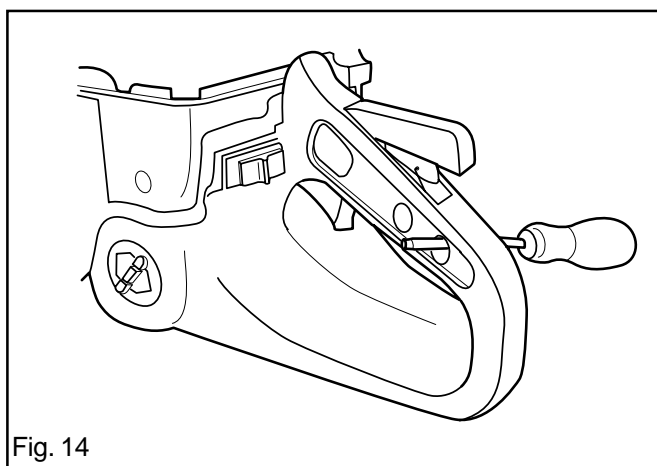

Fig. 14
3. Fitting of the throttle lock is simplified by using a screwdriver or the like to lock the spring. See fig. 14.